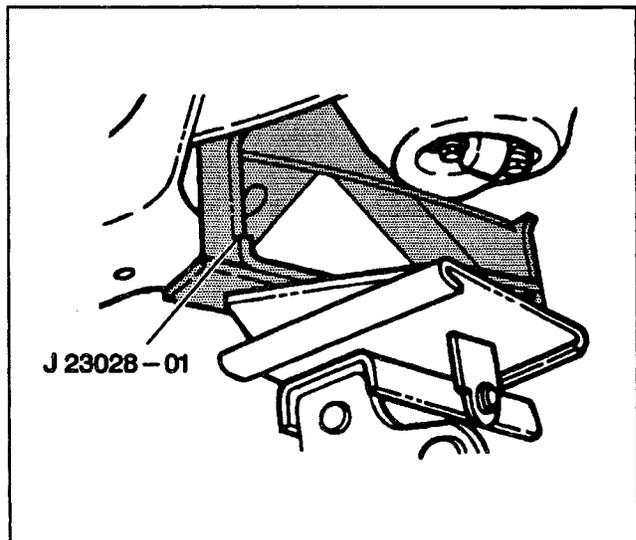

Figure 24—Cradling the Lower Control Arm
- Cradle the lower control arm using J 23028-01 secured to the end of a suitable jack (Figure 24).
- Use J 23028-01 to support the control arm (Figure 24).
2. The lower control arm (40) in place on the frame.
3. Pivot bolts (72) and new nuts (78).
- Insert and tighten the front bolt (72) first.